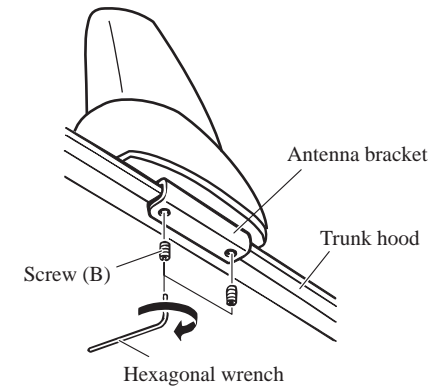

Fig. 3
2. Mount the antenna unit. (Fig. 3)